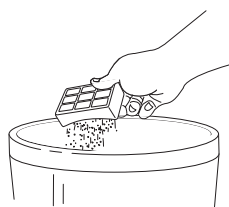

Fig. 22
- 3 Turn the filter over so that the dirty side is on the bottom. Tap it vigorously against the inside of a trash receptacle to knock off any dust. (Fig. 22)